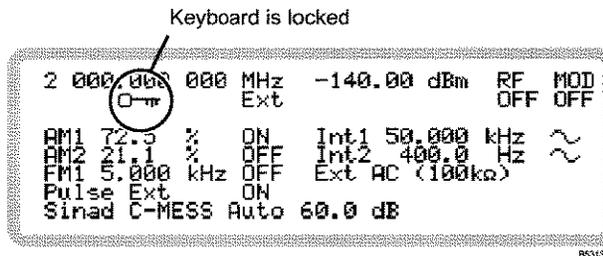

Fig. 3-127 Locked keyboard
- Confirm by pressing ENTER — the keyboard is locked and the display changes to show a summary of the instrument's set-up (Fig. 3-127). A 'key' symbol shows that the keyboard is locked. All controls (apart from the standby switch and the key) are disabled.